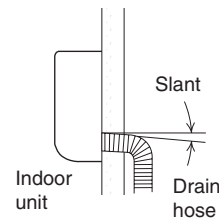

Fig. 3-35
- a) The drain hose should be slanted downward to the outdoors. (Fig. 3-35)